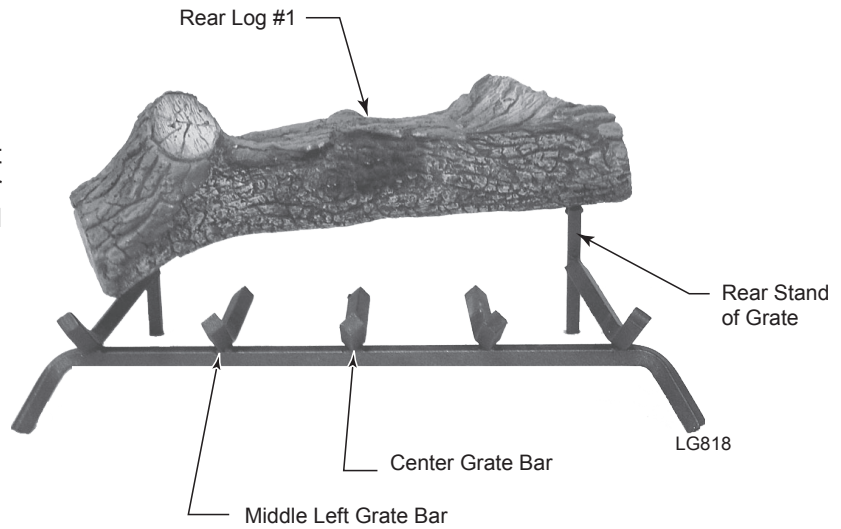

**Figure 48 -
10. Place front of Top Top Left Log #9 on Log #8 and back of Log #9 on left end of Log #3. *Figure 48*